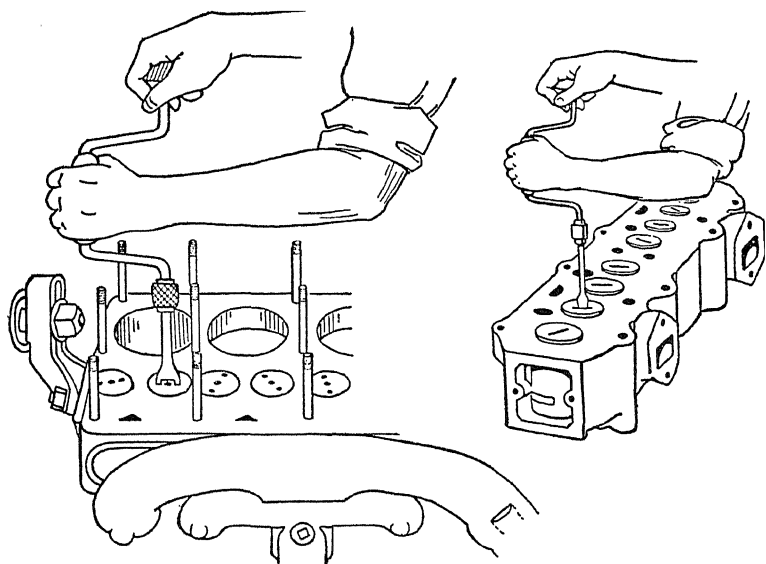

Fig. 17. Grinding Valves by Hand
**Grinding Valves.** For many years valve grinding was a hand operation. This is still a very satisfactory method of doing the work with the exception that the amount of time it requires is prohibitive with some flat-rate schedules. Fig. 17 shows the most commonly used tools for this hand grinding, being on the order of a bit brace. The L-head engine at the left of this figure has valves provided with two drill holes. A special valve grinding tool is used to fit these holes. The valve-in-head engine at the right has the valves provided with a slot. A screwdriver bit is used in this case.